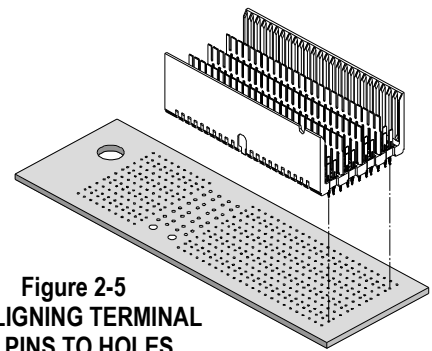

Figure 2-5
- Carefully locate the connector(s) on the printed circuit board and start in by hand. Make sure terminal pin 1 is in the correct position on all connectors. See Figure 2-5.